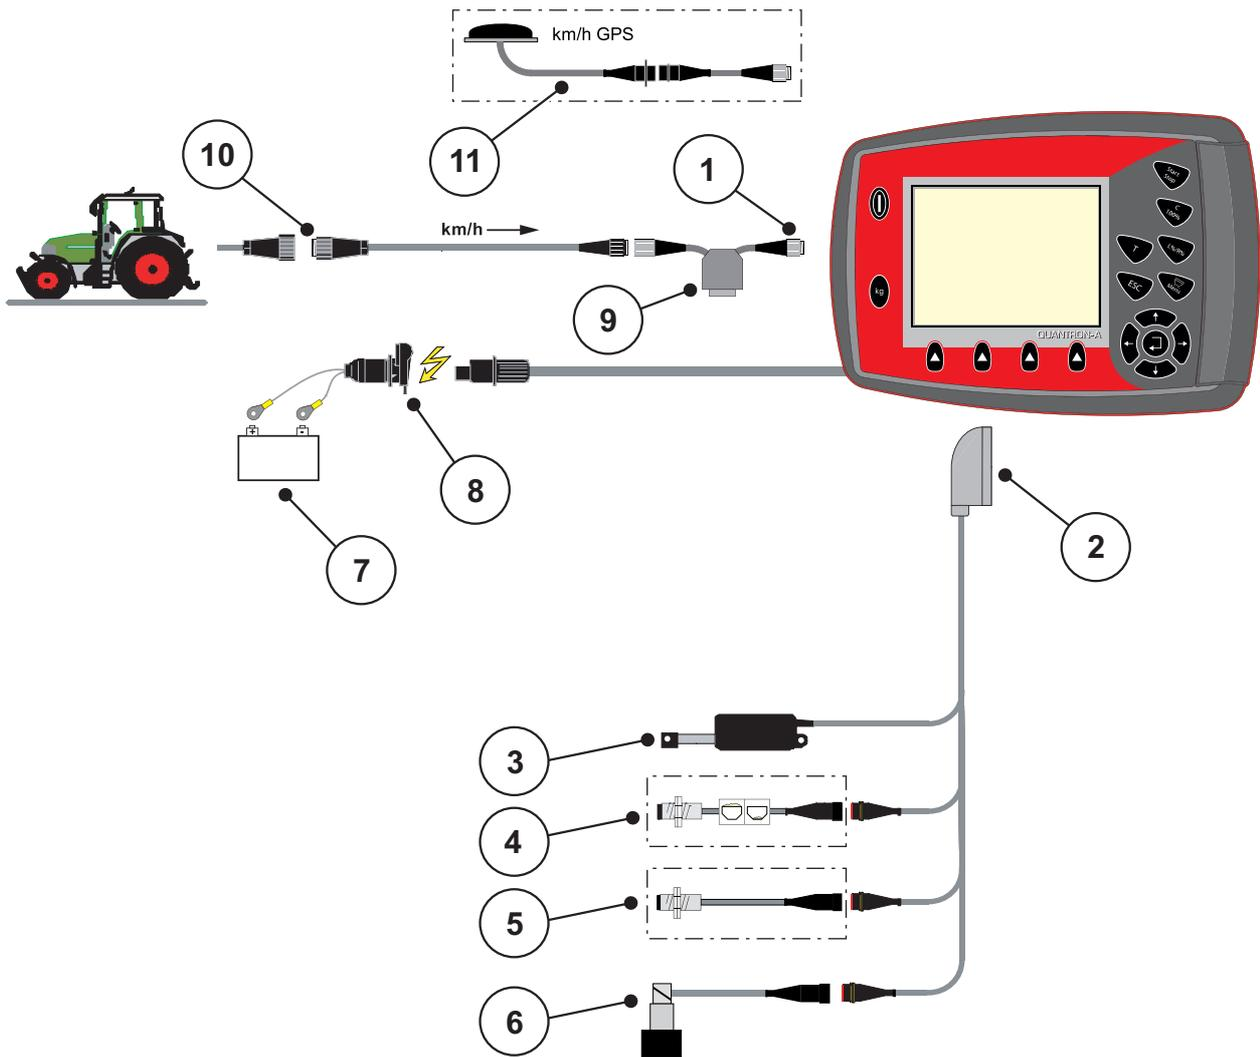
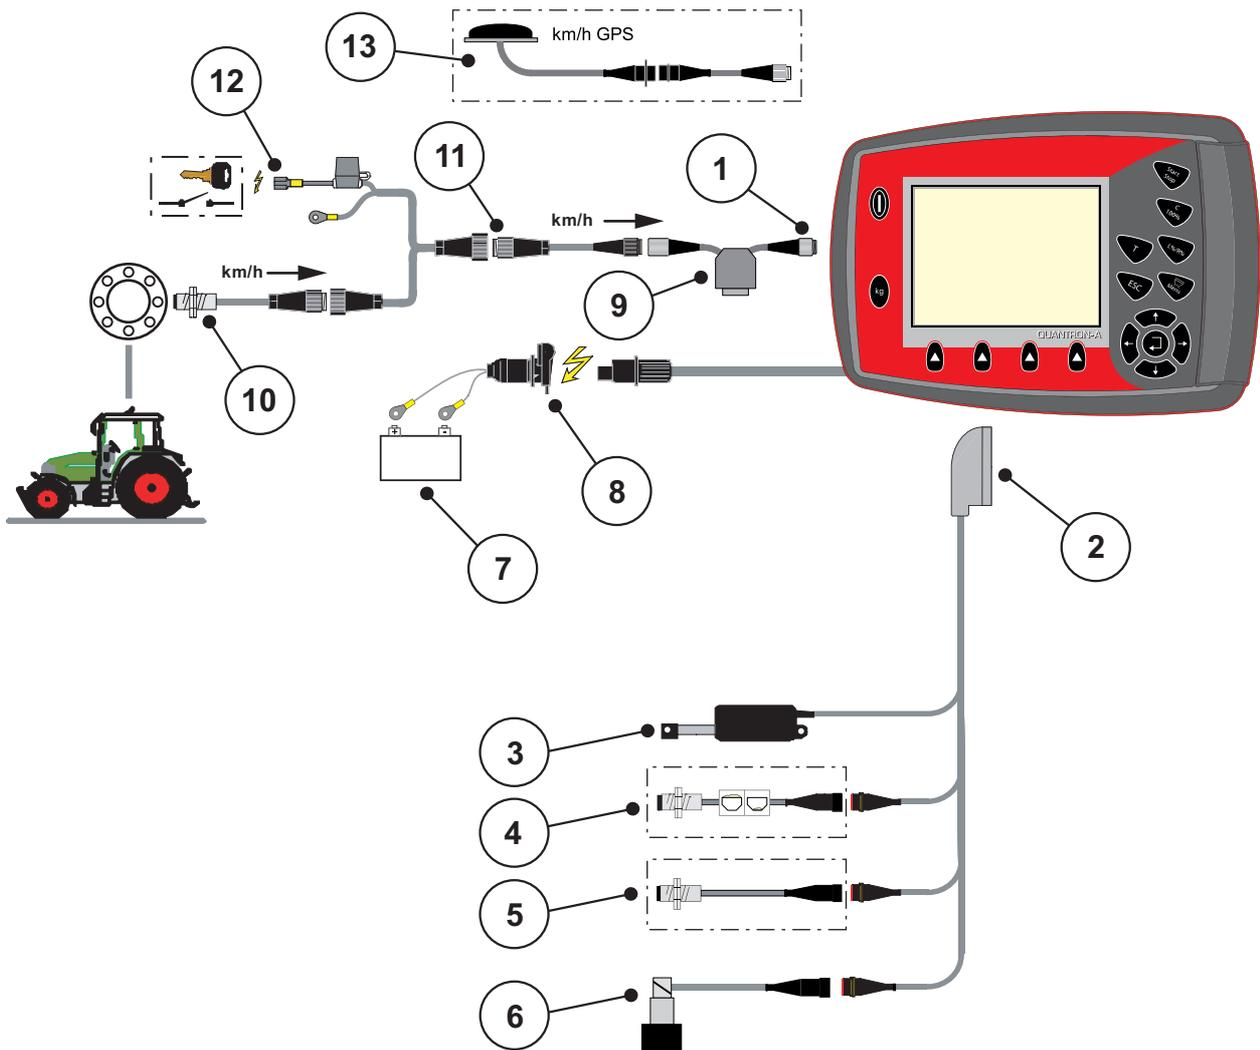

Figure 3.3: Schematic connection diagram QUANTRON-A (standard)
Figure 3.5: Schematic connection diagram QUANTRON-A (standard)
- Connect the control unit to the 7-pin socket or to the forward speed sensor (depending on the equipment, see figure 3.3 to figure 3.5).